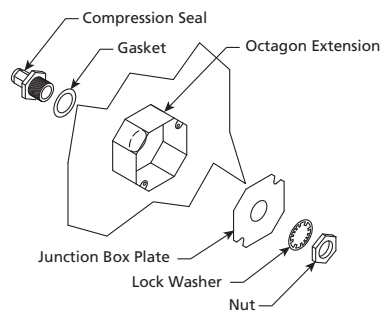

Figure 6 — Components
2. Insert the Evergreen Quik-Seal fitting into the hole from the inside of the duct, making sure the gasket is placed on the fitting before inserting it into the hole. Install the lock washer and 1" nut on the threaded portion of the Evergreen Quik-Seal fitting and tighten securely. See Figure 6.